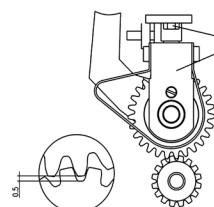

图33(Fig.33)
上下滚轮的间隙: 将下滚轮放至下死点在自由状态时, 上滚轮与下滚轮的齿间隙为0.5mm (图33), 且两滚轮平行。调整:
1.两滚轮平行调整: 将螺钉(A)放松, 调整两滚轮平行后, 稍锁紧螺钉(A)上下移动固定座(C), 使上下滑动顺畅, 再锁紧螺钉(A)。(图33)
The teeth gap between top and lower rollers should be 0.5mm (Fig.33), when the lower roller is free and at its dead bottom end and parallel to the top roller.
Paralleling Loosen screw (A) and top and lower rollers parallel .Tighten screw (A) slightly and move frame Base (C) up and down to its smooth .The tighten screw (A) . (Fig.33)